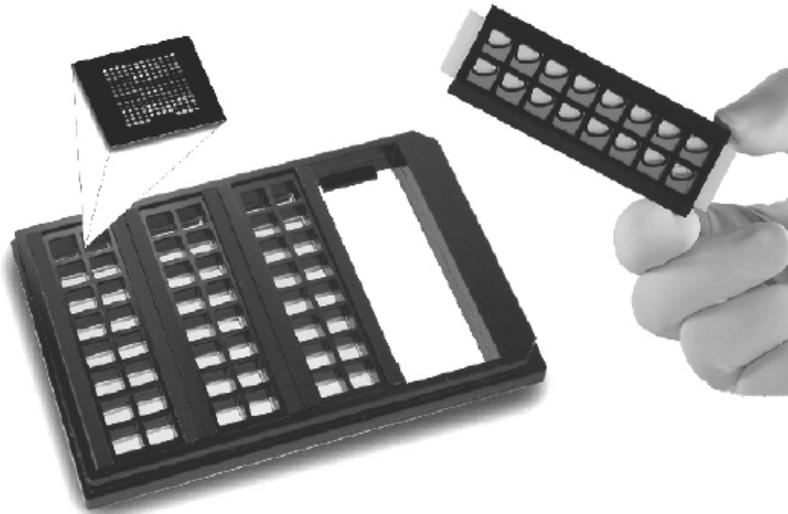

Figure 12
12. The ProPlate tray included in the ProPlate 4 Well Tray Set (or sold separately as part 204871) holds up to 4 modules in a plate and has a standard microtiter plate footprint and well spacing for use with plate washers and readers (Figure 12).